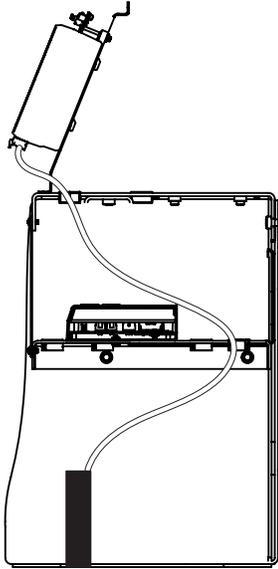

Figure 33. Route Relay Wires
2. Route the relay wires to the SmartCNX Controller (Figure 33).